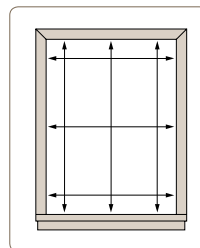

Fig. 2
- Take three measurements for both height and width (see Fig. 2).